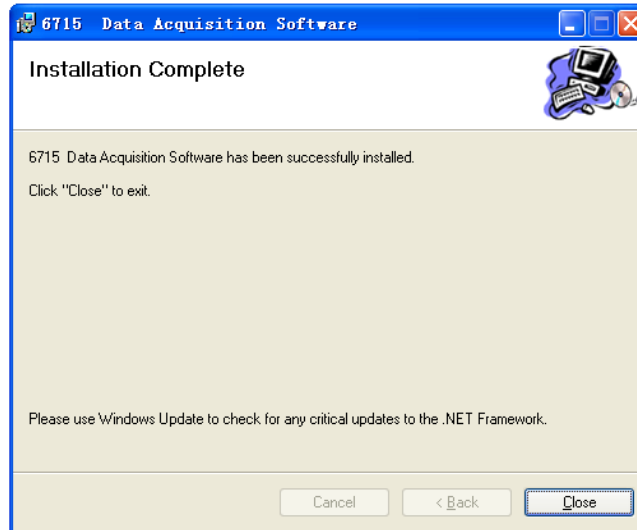

Figure2-5
5) When the screen shown in Figure 2-5 appears,press “Close”.